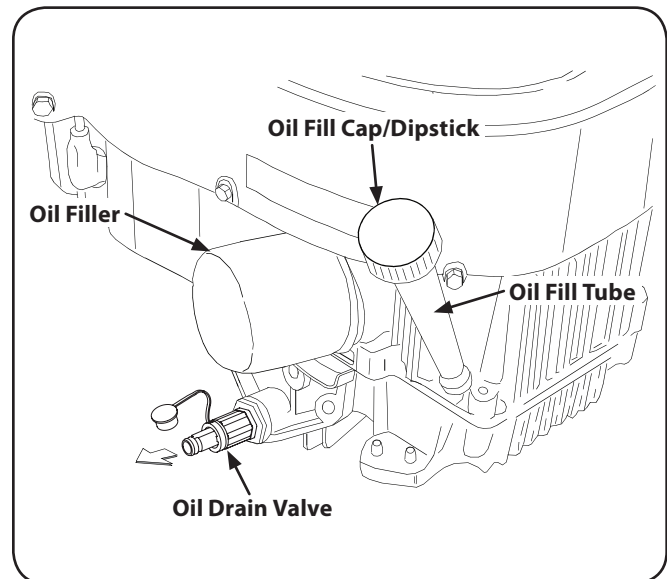

Figure 6-1
3. If your engine has the oil drain valve setup shown if Fig. 6-1, see the Oil Drain Valve section on page 20.
- Pop open the protective cap on the end of the oil drain valve to expose the drain port. Refer to Fig. 6-1. Remove the oil fill cap/dipstick from the oil fill tube.